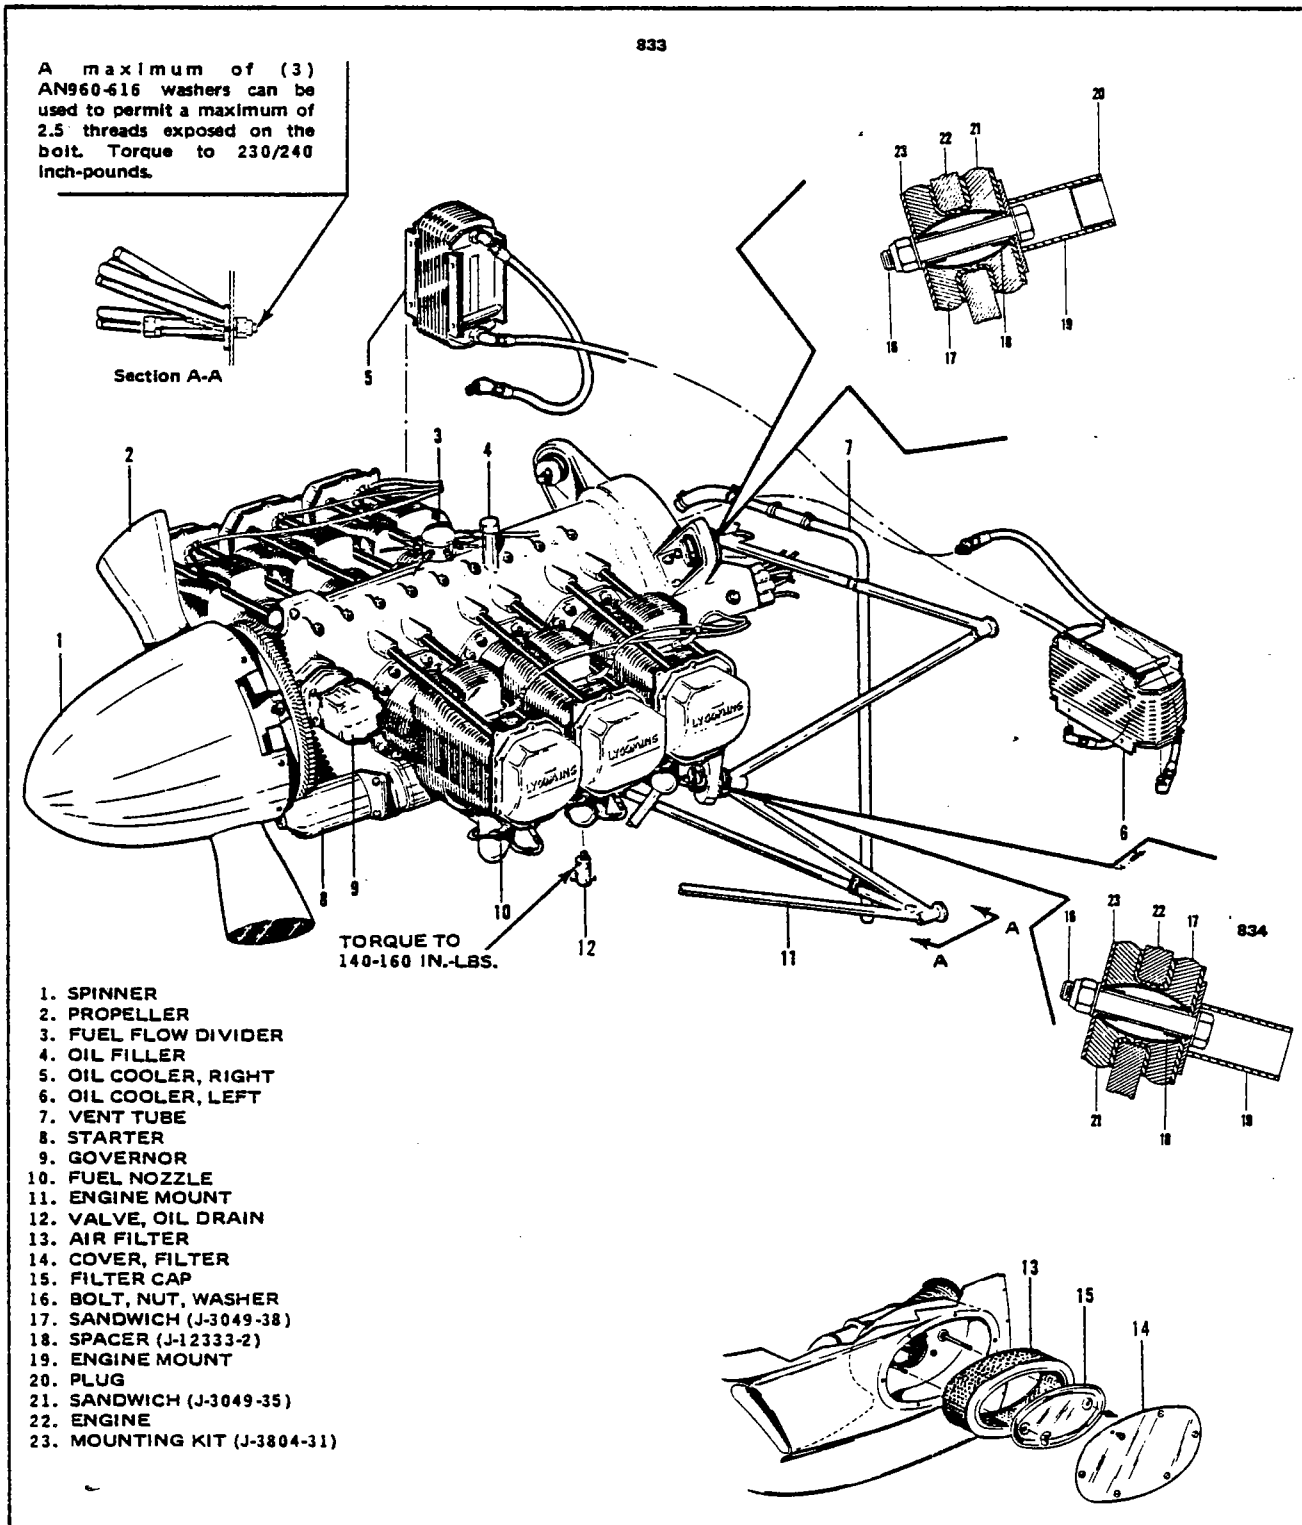

Figure 71-1. Engine Installation (PA-32-301)
INSTALLATION OF ENGINE. (PA-32-301.) (Refer to Figure 71-1.)
2. Insert an engine mount bolt, with washer against head, in the engine mount and slide half of the mount assembly on the bolt. (Refer to Figure 71-1 for proper shock mount assembly.) Repeat this procedure for the other three attachment points.
Shock mount Part No. J-3049-35 sandwich must be positioned on the compression side of the engine lugs, with the upper mounts on the forward side, and the lower mounts on the aft side. The part number is stamped on the metal face of the mount. (Refer to Figure 71-1.)